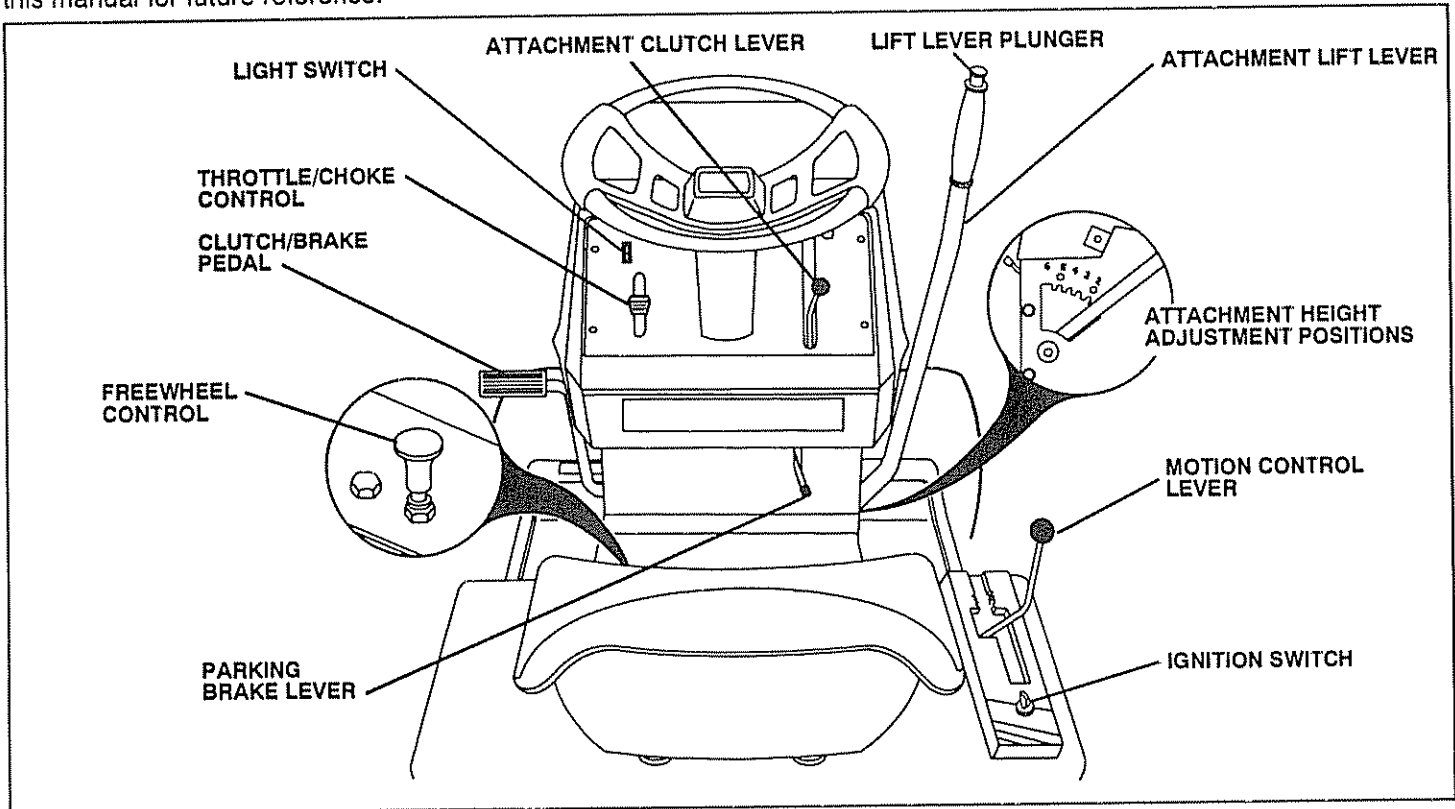

FIG. 6
- Raise attachment lift lever to its highest position (See Fig. 6).
- Release parking brake by depressing clutch/brake pedal (See Fig. 6).
- Pull freewheel knob up to disengage transmission (See Fig. 6).
- Slide seat until a comfortable position is reached which allows you to press clutch/brake pedal all the way down (See Fig. 6)
TO MOVE FORWARD AND BACKWARD (See Fig. 6)
TO ADJUST MOWER CUTTING HEIGHT (See Fig. 6)
- Pull freewheel control knob up to disengage transmission (See Fig. 6).
- Do not push or tow unit at more than five (5) MPH.